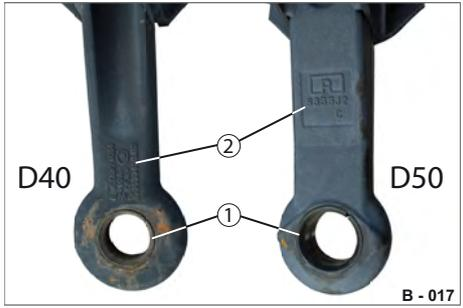

Fig. 26 Towing eyes with wear bushings
- ▶ Only replace a worn/deformed towing eye with an original spare part - see label (Fig. 26/2) on the towing eye.